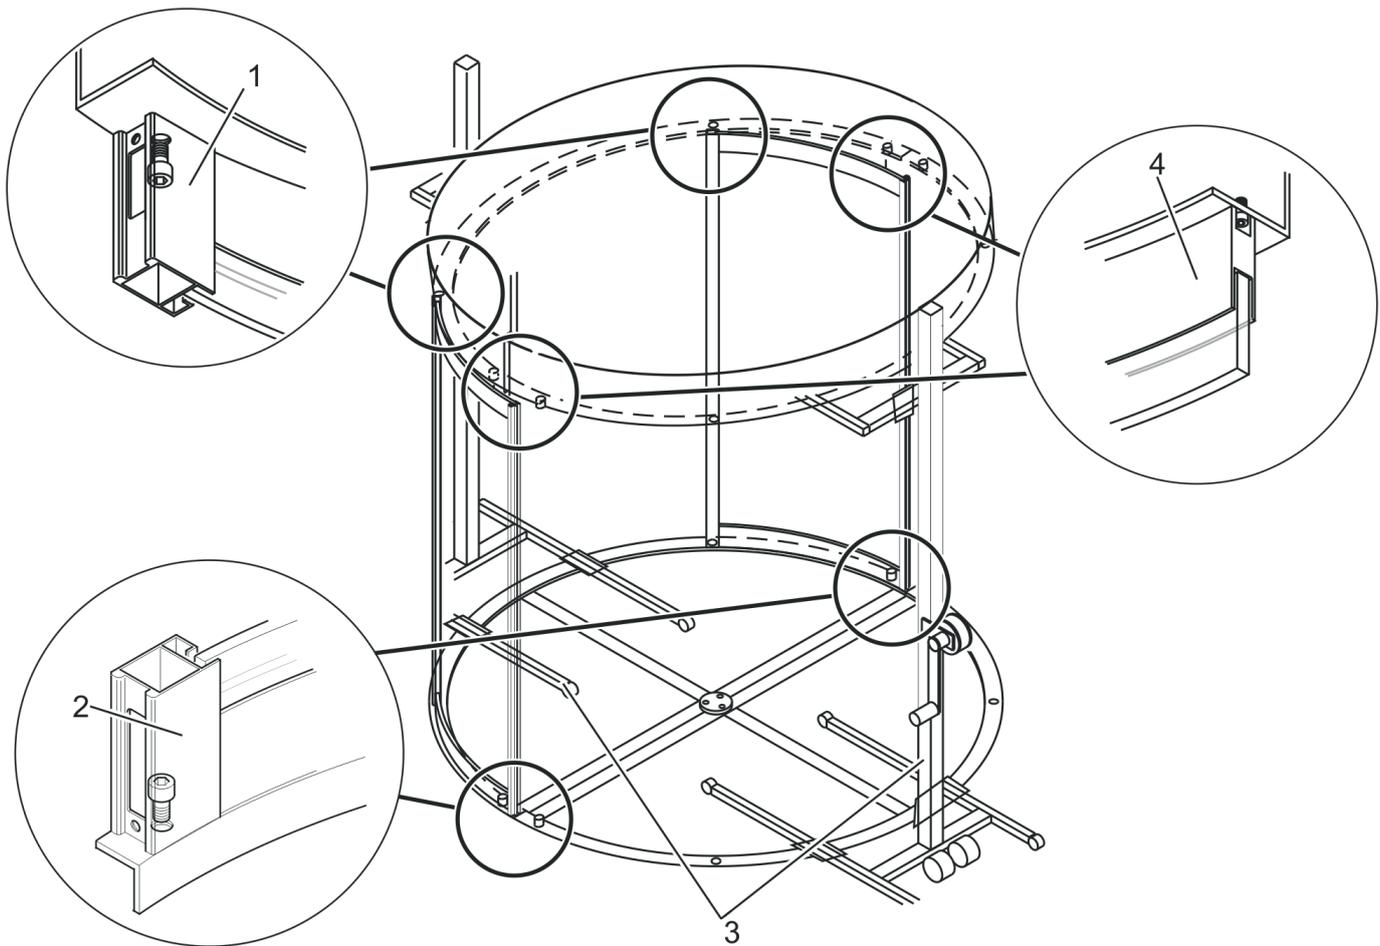

Fig. 50 Ceiling halves on drum wall (example)
Raise lift truck (Fig. 50/3) until the first ceiling half can be pushed over the drum wall segments.
6. Push raised ceiling half over drum walls and align as shown in Fig. 50. With an inside night shield, ensure that the track rail is on the outside of the building.
8. Check that ceiling half is positioned evenly on the drum walls (Fig. 50/4).
13. Raise lift truck (Fig. 50/3) until the second ceiling half can be pushed over the drum wall segments.
14. Push raised ceiling half over drum walls and align as shown in Fig. 50. With an inside night shield, ensure that the track rail is on the outside of the building.
16. Check that ceiling half is positioned evenly on the drum walls (Fig. 50/4).
19. Check that ceiling half is positioned evenly on the drum walls (Fig. 50/4).
26. Assemble ceiling structure hand-tight with drum walls (Fig. 50/1).
28. If there is a discrepancy, slightly loosen drum walls until hand tight (Fig. 50/2) and align to clearance dimensions.
31. Tighten drum walls in the ground (Fig. 50/2).
33. Tighten ceiling structure on drum walls (Fig. 50/1).